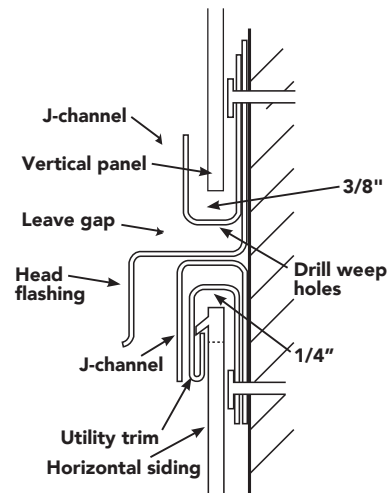

Figure 49
- The top piece of J-channel must have minimum 3/16" (4.8mm) diameter weep holes drilled no more than 24" (610mm) apart to allow for water runoff, and the starter strip (J-channel) should not rest on head flashing because it will block weep holes. Leave a gap as shown (Figure 49).